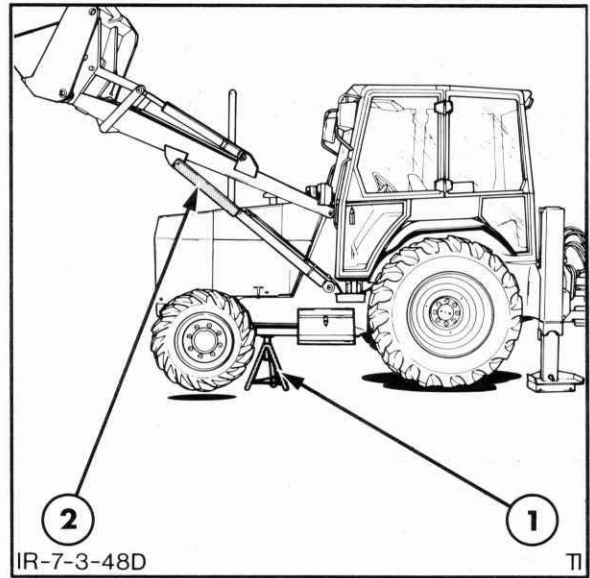

Figure 7-111
4. Raise the front of the tractor so that both front wheels are clear of the ground and securely support the tractor on the loader subframe in a position clear of the front axle and wheels, Figure 7-111. Be sure